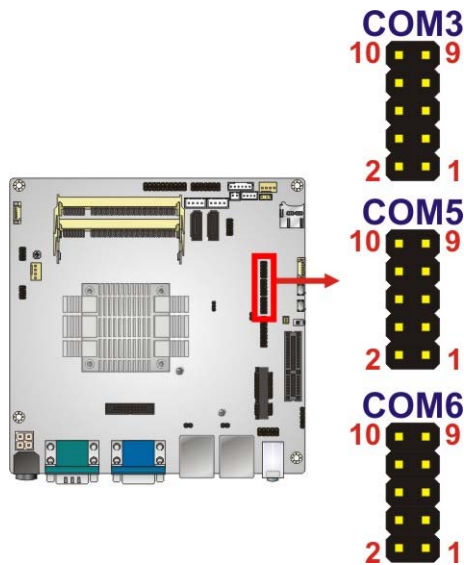

Figure 3-21: RS-232 Serial Port Connector Locations
- CN Location: See Figure 3-21